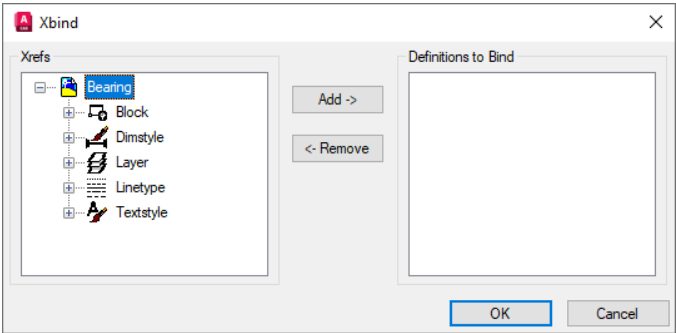

Figure 2-28 The named objects in the **Xbind** dialog box
5. Now, invoke the **Xbind** tool; the **Xbind** dialog box is displayed. This dialog box has two areas with list boxes. They are **Xrefs** and **Definitions to Bind**. If you want to bind the blocks defined in the xref drawing Bearing, first click on the plus sign adjacent to the xref Bearing; the icons for the named objects in the drawing are displayed in a tree view, refer to Figure 2-28. Click on the plus sign next to the Block icon. AutoCAD lists the blocks defined in the xref drawing (Bearing). Select the block Bearing|SIDE and then choose the **Add** button. The block name will be added to the **Definitions to Bind** list box. Choose the **OK** button to exit the dialog box. AutoCAD will bind the block with the current drawing and a message is displayed at the command prompt: **1 Block(s) bound**. The name of the block will change to Bearing\$0\$SIDE. You can invoke the **Block Definition** dialog box by choosing the **Create Block** tool in the **Block Definition** panel and check the **Name** drop-down list to see if the block with the name Bearing\$0\$SIDE has been added to the drawing. If you want to insert the block, you must enter the new block name (Bearing\$0\$SIDE). You can also rename the block to another name that is easier to use.